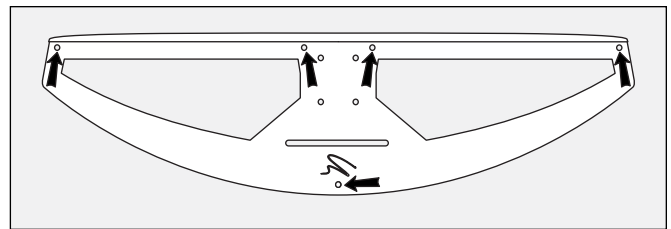

Figure 4. The Theater i stand, shown from the bottom, with bumper insertion locations shown.
4. Insert the 5 rubber bumper feet in the 5 outer holes (see figure 4).